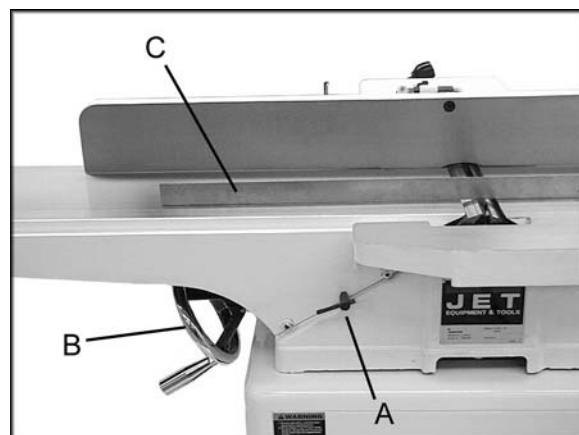

Figure 17
3. Loosen table lock screw (A, Fig. 17) and raise the outfeed table to the height of blade number one by turning handwheel (B, Fig. 17). Counter-clockwise will cause the outfeed table to raise. Clockwise will cause the outfeed table to lower. Set a straight edge (C, Fig. 17) on the outfeed table and across the cutterhead.